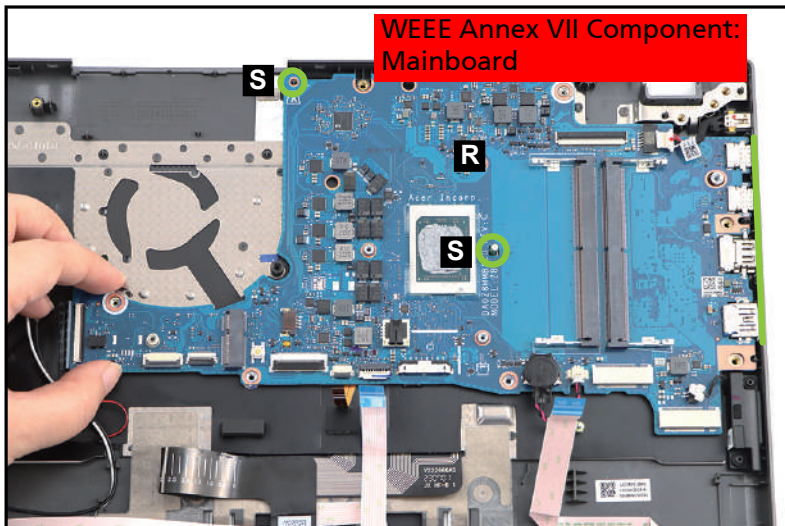

Figure 3-66. Mainboard Removal
15. Release the mainboard (R) from the I/O ports slots and guide pins (S) on the top assembly (Figure 3-66). Then remove the mainboard.